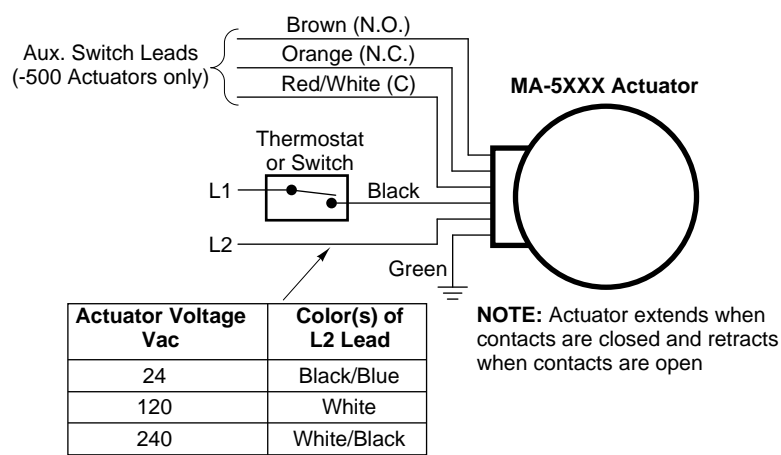
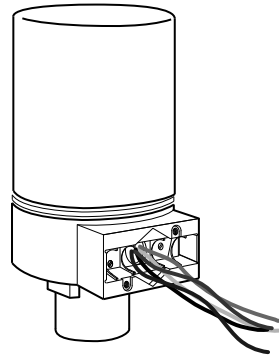

Figure-1 Typical Wiring for MA-5xxx Series Actuators.
Figure-4 Connection of Wire Leads (No Conduit).
Make connections as required. Refer to Figure-1 for a wiring diagram of a typical application. Refer to Figure-4 for a view of the actuator.
3. Make the required connections. Refer to Figure-1 for a wiring diagram of a typical application.
7. Make the required wiring connections. Refer to Figure-1 for a wiring diagram of a typical application.